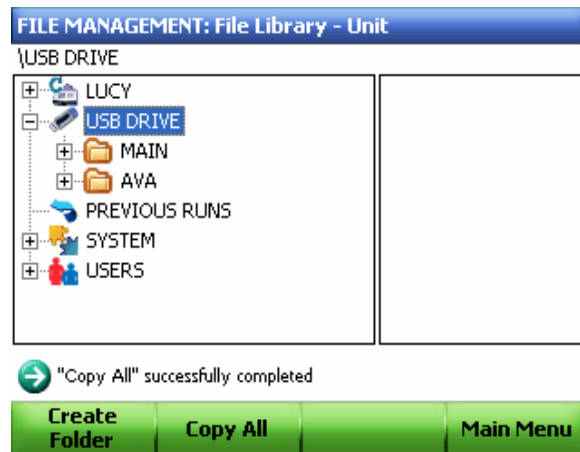

Figure 83. All files from the LUCY thermal cycler are copied into the USB key.
- Select **Yes** to confirm that all files were successfully copied (Figure 83).